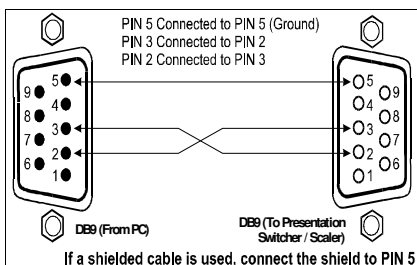

Figure 6: Connecting the PC
- Connect the RS-232 DB9 port on your PC to the RS-232 DB9 rear panel port on the **VP-727xl** unit, forming a cross-connection¹, as Figure 6 illustrates